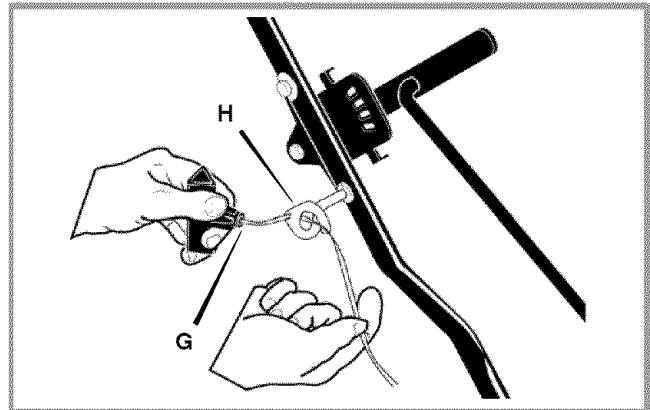

Figure 5: Starter Rope
- 8 Twist the starter rope (G) through the rope guide (H). See Figure 5.